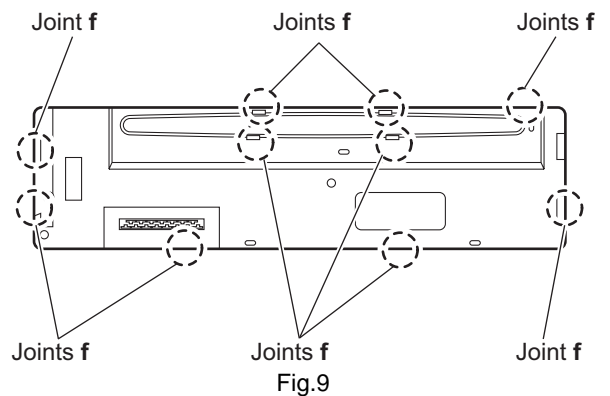

Fig.9
- (2) Release the ten joints **f** attaching the rear cover to the front panel assembly. (See Fig.9.)